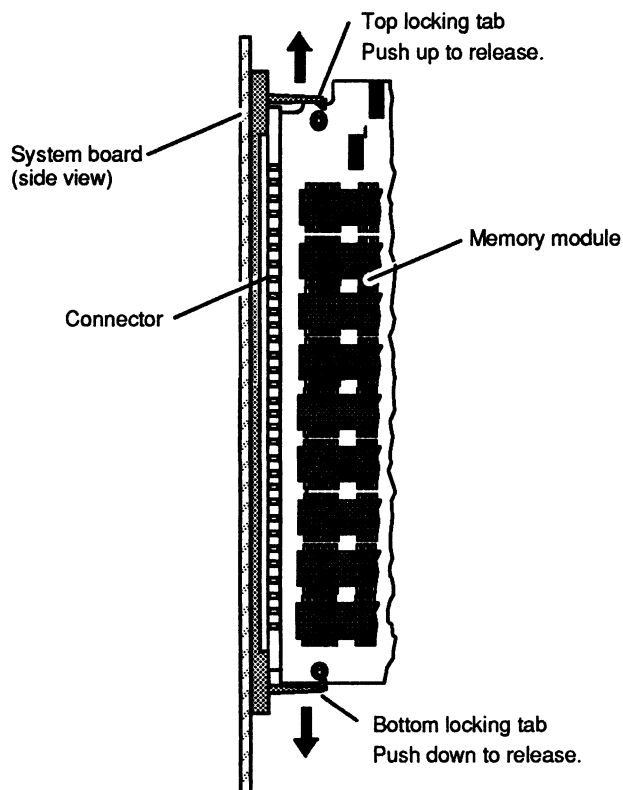

Figure 3-3 Releasing the Memory Module Locking Tabs
1. Using your finger, gently push the locking tab on the *bottom* of the connector *down* as shown in Figure 3-3. Then gently push the locking tab on the *top* of the connector *up* as shown in Figure 3-3. The memory module will spring up slightly, indicating that the module is released.